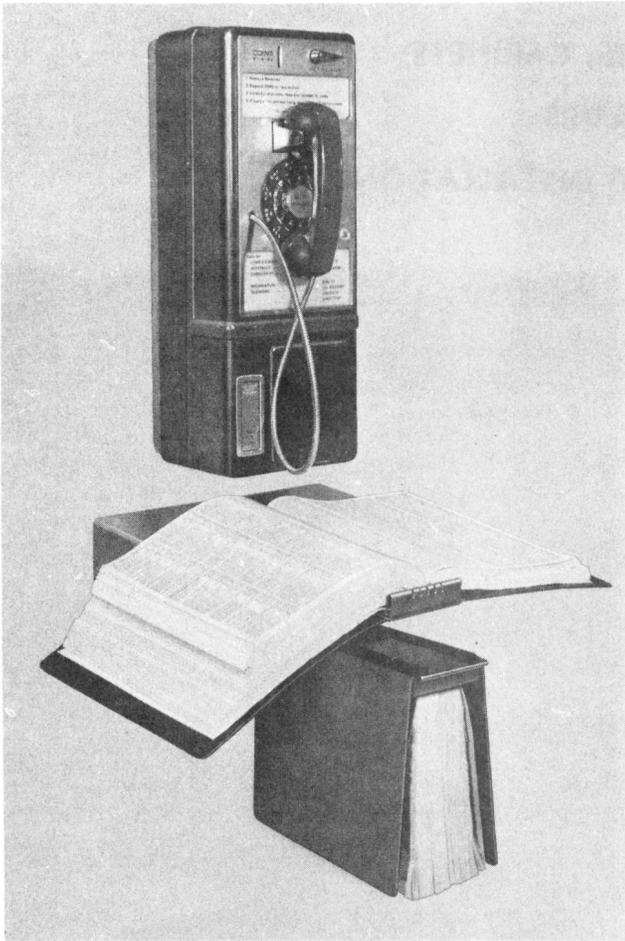

Fig. 2—KS-20029, List 2 Directory Shelf With Directory Open For Use
2.05 For access to the directory, the user pulls the directory forward and upward to lay flat on the shelf (Fig. 2) where it remains until returned to its normal position after use.